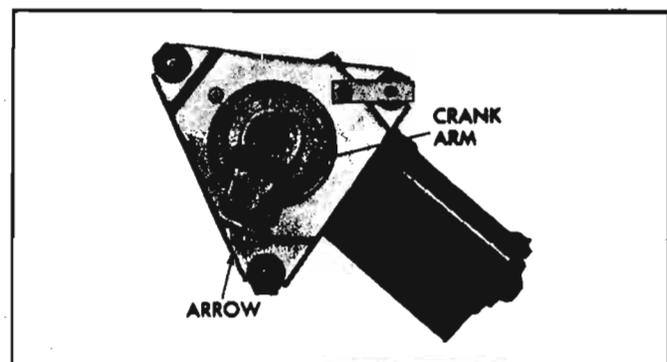

Fig. 8-134—Wiper Crank Arm in Park Position
8. Install crank arm in position as shown (fig. 8-134).